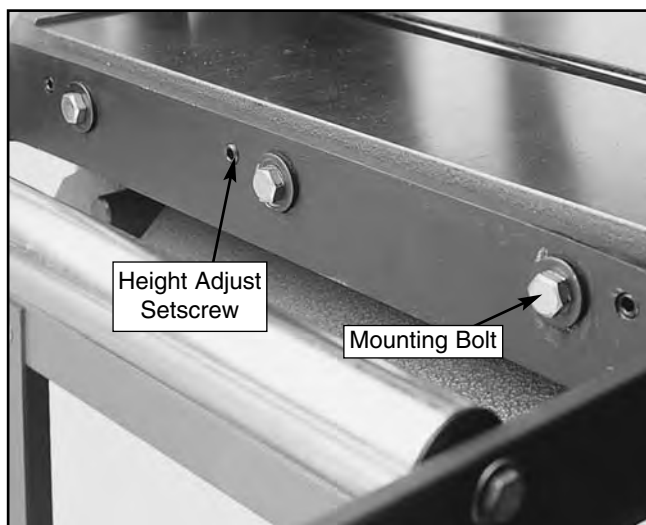

Figure 8. Extension roller attachment points.
1. Use the hex bolts and washers to mount the extension rollers. See **Figure 8**. Ensure that the top of the rollers are above the extension roller frame.